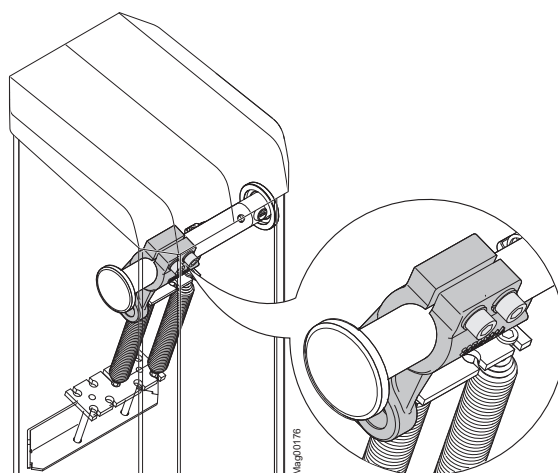

Fig. 26: Loosen hexagon socket screws at the clamping lever
18. Check vertical alignment of the barrier arm. If required, correct position of the flange and the barrier arm via the hexagon socket screws at the clamping lever. → See page 62, Fig. 26.